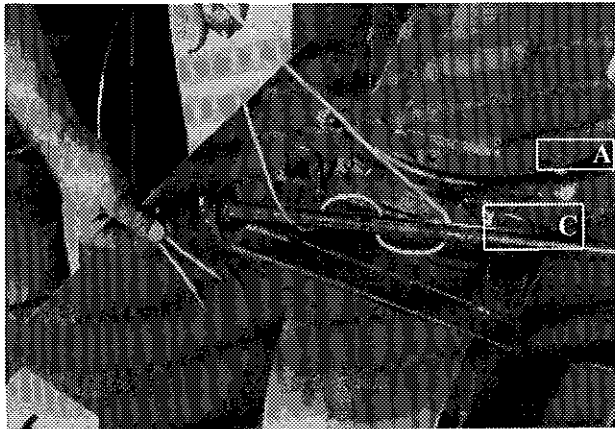

Figure 19
- 2) **Figure 19:** Thread the steel cable through the three holes in the shaft and arrange to have both cable ends of equal length. Turn the chute manually until the cable anchor hole (A) is near cable guide (C).